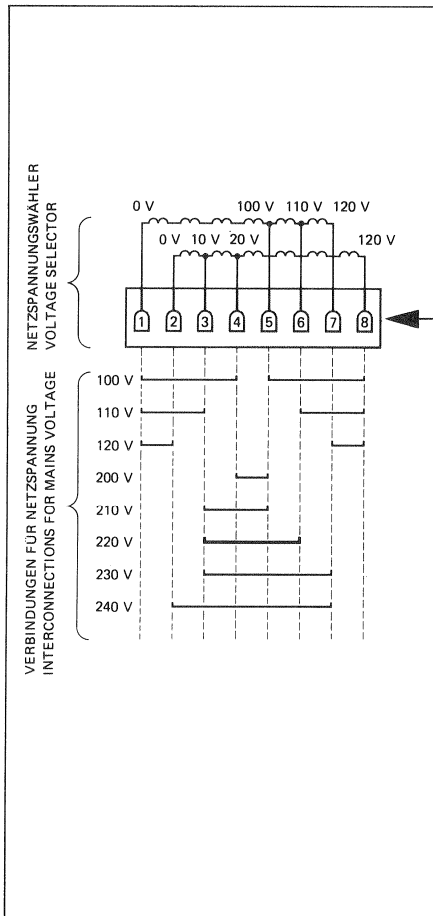

Fig.2.1
- Check voltage selector at rear of machine -> Fig.2.1